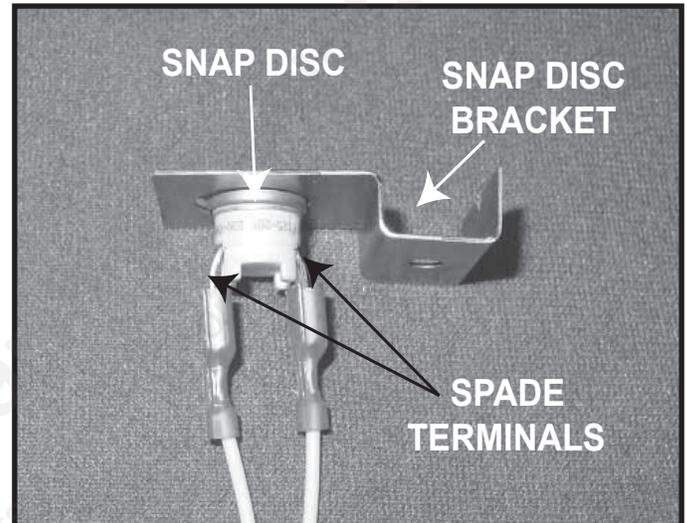

Figure 15
4. Install the snap disc. A snap disc bracket is located in the appliance's component bag. Bend the two spade terminals on the snap disc from a horizontal to a vertical position. Insert the snap disc through the hole in the snap disc bracket and attach the two white wires from the wiring harness to the snap disc. See Figure 15.